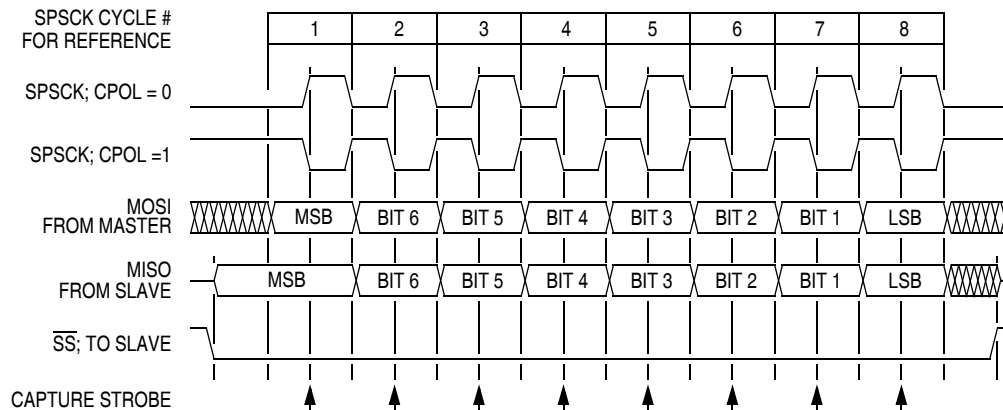
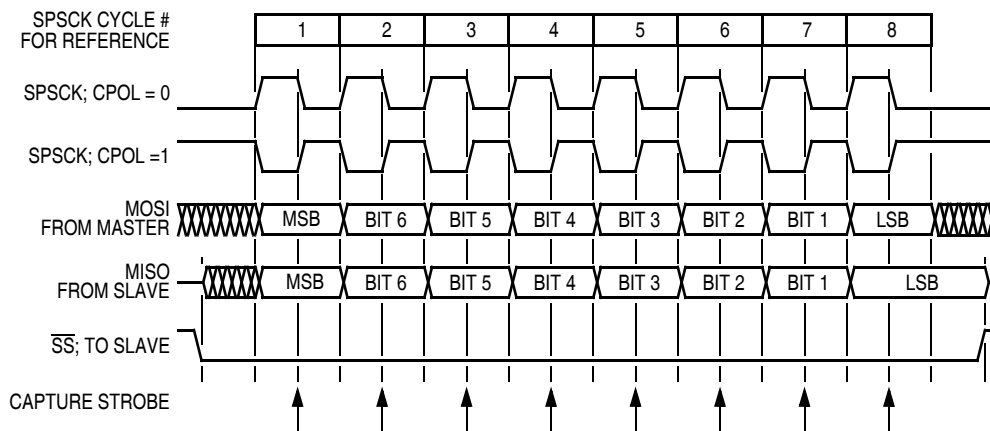

Figure 16-5. Transmission Format (CPHA = 0)
Figure 16-7. Transmission Format (CPHA = 1)
Figure 16-5 shows an SPI transmission in which CPHA is 0. The figure should not be used as a replacement for data sheet parametric information.
Figure 16-7 shows an SPI transmission in which CPHA is 1. The figure should not be used as a replacement for data sheet parametric information. Two waveforms are shown for SPSCCK: one for CPOL = 0 and another for CPOL = 1. The diagram may be interpreted as a master or slave timing diagram since the serial clock (SPSCCK), master in/slave out (MISO), and master out/slave in (MOSI) pins are directly connected between the master and the slave. The MISO signal is the output from the slave, and the MOSI signal is the output from the master. The SS line is the slave select input to the slave. The slave SPI drives its MISO output only when its slave select input (SS) is at 0, so that only the selected slave drives to the master. The SS pin of the master is not shown but is assumed to be inactive. The SS pin of the master must be high or must be reconfigured as general-purpose I/O not affecting the SPI. (See 16.7.2 Mode Fault Error.) When CPHA = 1, the master begins driving its MOSI pin on the first SPSCCK edge. Therefore, the slave uses the first SPSCCK edge as a start transmission signal. The SS pin can remain low between transmissions. This format may be preferable in systems having only one master and only one slave driving the MISO data line.
The overflow flag (OVRF) becomes set if the receive data register still has unread data from a previous transmission when the capture strobe of bit 1 of the next transmission occurs. The bit 1 capture strobe occurs in the middle of SPSCK cycle 7 (see Figure 16-5 and Figure 16-7.) If an overflow occurs, all data received after the overflow and before the OVRF bit is cleared does not transfer to the receive data register and does not set the SPI receiver full bit (SPRF). The unread data that transferred to the receive data register before the overflow occurred can still be read. Therefore, an overflow error always indicates the loss of data. Clear the overflow flag by reading the SPI status and control register and then reading the SPI data register.